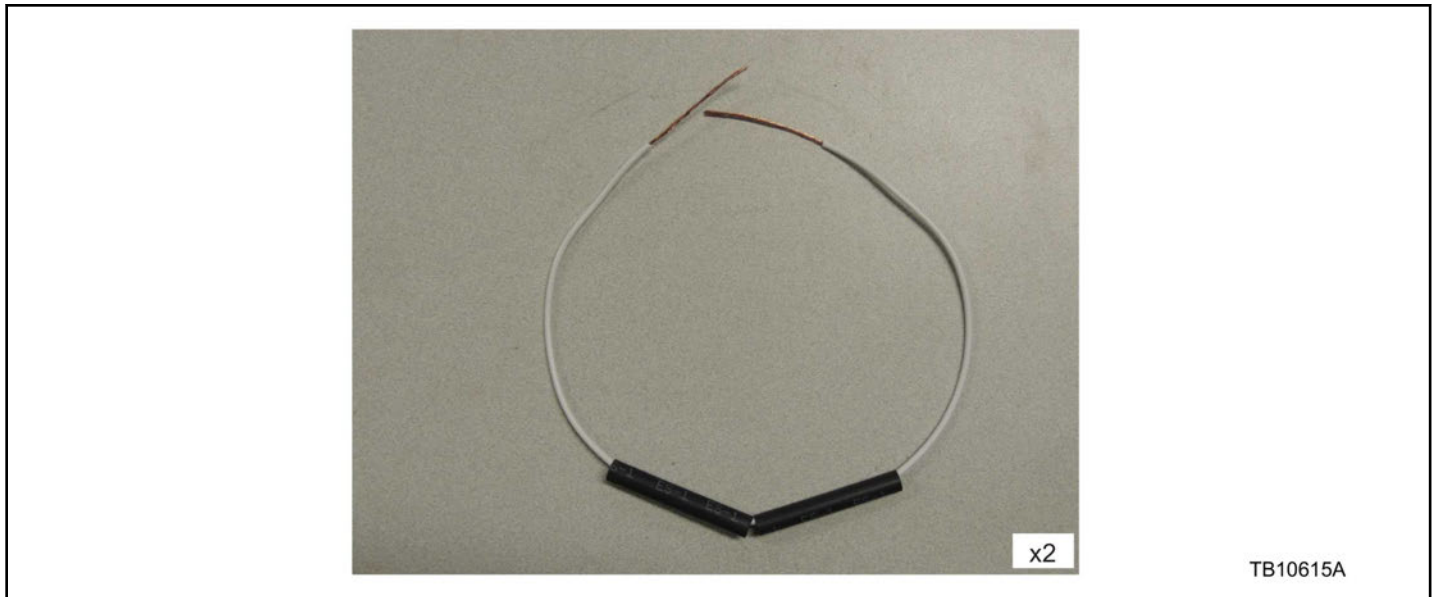

Figure 8 - Article 15-0007
14. Prepare two lengths of wire for splicing as follows. (Figure 8)